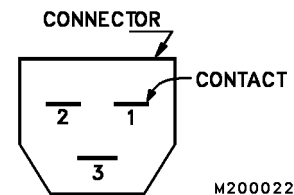

FIGURE 20-14. INCLINOMETER SIDE CONNECTOR VIEW
2. Connect inclinometer wiring to the truck wiring harness. (Figure 20-14) Be sure that wires are connected correctly.